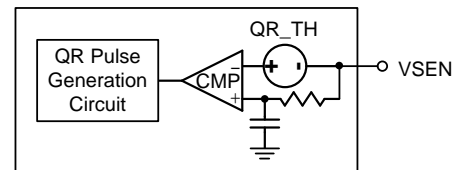

Figure 11. VDD Controller : Quick Response Triggering Circuit
When the transient load step-up becomes quite large, it is difficult for loop response to meet the energy transfer. Hence, the output voltage generate undershoot to fail specification. RT3661AB has Quick Response (QR) mechanism which is able to improve this issue. It adopts a nonlinear control mechanism which can disable interleaving function and simultaneously turn on all UGATE one pulse at instantaneous step-up transient load to restrain the output voltage drooping. The output voltage signal behavior needs to be detected so that QR mechanism can be triggered. Refer to Figure 11, the output voltage signal is via a remote sense line to connect at the VSEN pin. The QR threshold can be set by SET1 pin setting for VDD controller refers to Table 3.